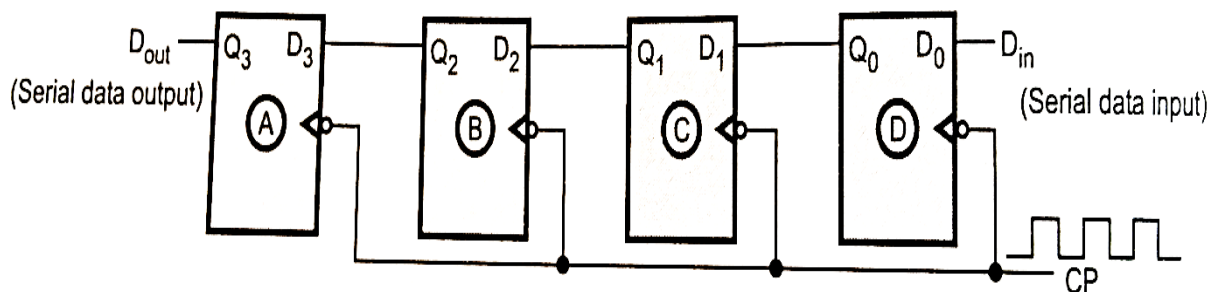

Figure 3.26: shift-left register
- Figure 3.26 shows the SISO shift left registers.